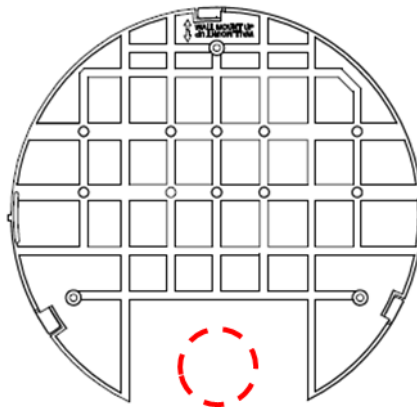

Figure 8 - Cut or drill a circle on the wall for Ethernet cable feeding
3. If **feeding Ethernet cable through the wall**, cut or drill a circle approximately 25 mm in diameter, just below the bottom center of the Mounting Bracket (see Figure 8). Then feed the CAT 5e/6 cable through the hole.